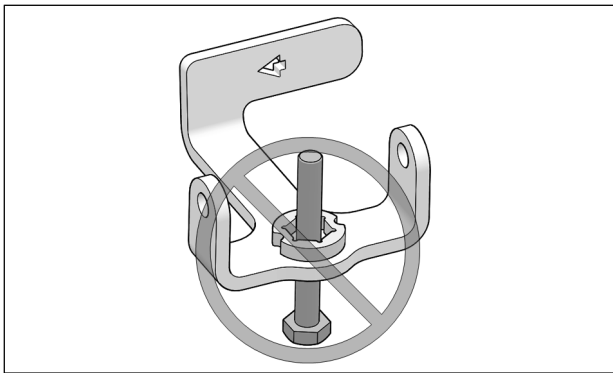

Fig. 5
**CAUTION:** Make sure that the bolt is inserted in the right direction. See Fig. 5